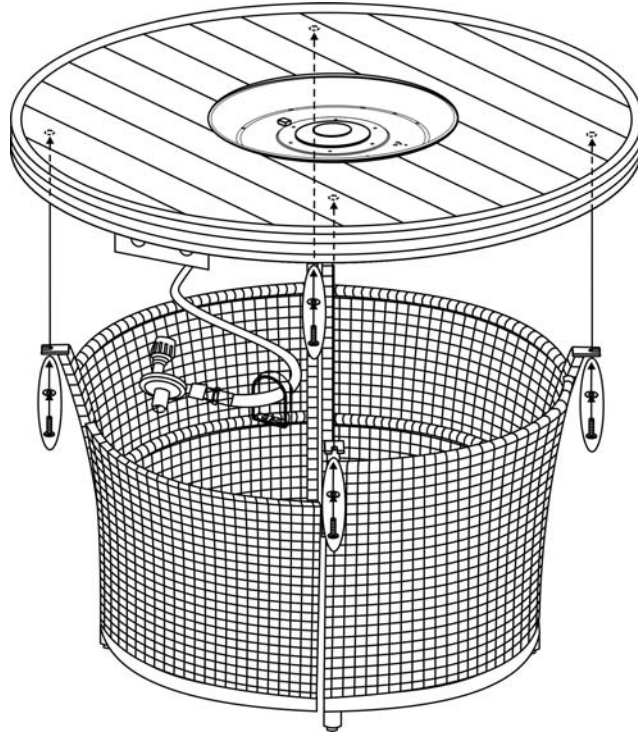

Figure 5
4. With the help of another person, carefully place the table top onto the firepit base. After making any necessary adjustments to the alignment of the table top and the assembled base, use four 1/4"x20 mm bolts and Ø18xØ6.5x1.5 mm washers as shown in Figure 5. Guide the bolts through the holes in the base brackets, into the pre-drilled holes in the table top. **Do not tighten completely.**